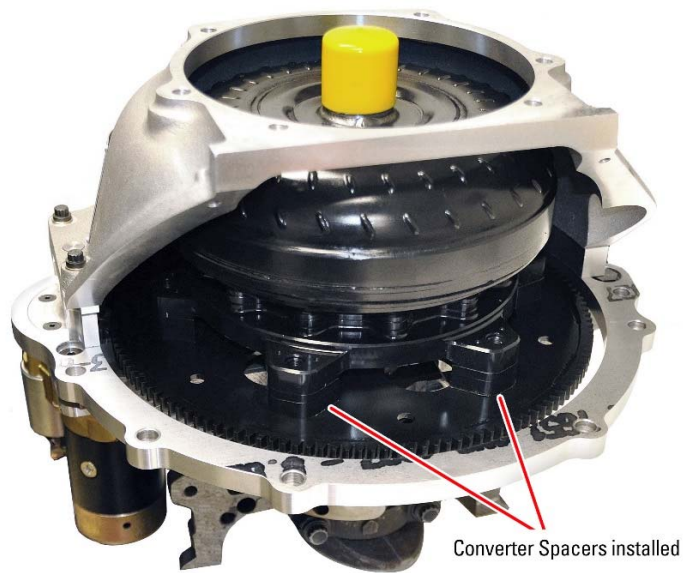

Figure 7: Installed Torque Converter
Step 8: Thread a Torque Converter Bolt (#13) through the Flexplate, through the converter pad spacer, and into the Torque Converter. Rotate the engine to gain access to the next mounting hole and repeat this process until all six (6) Torque Converter Bolts are in place. Tighten all bolts down. Figure 7 below shows a properly installed Torque Converter.